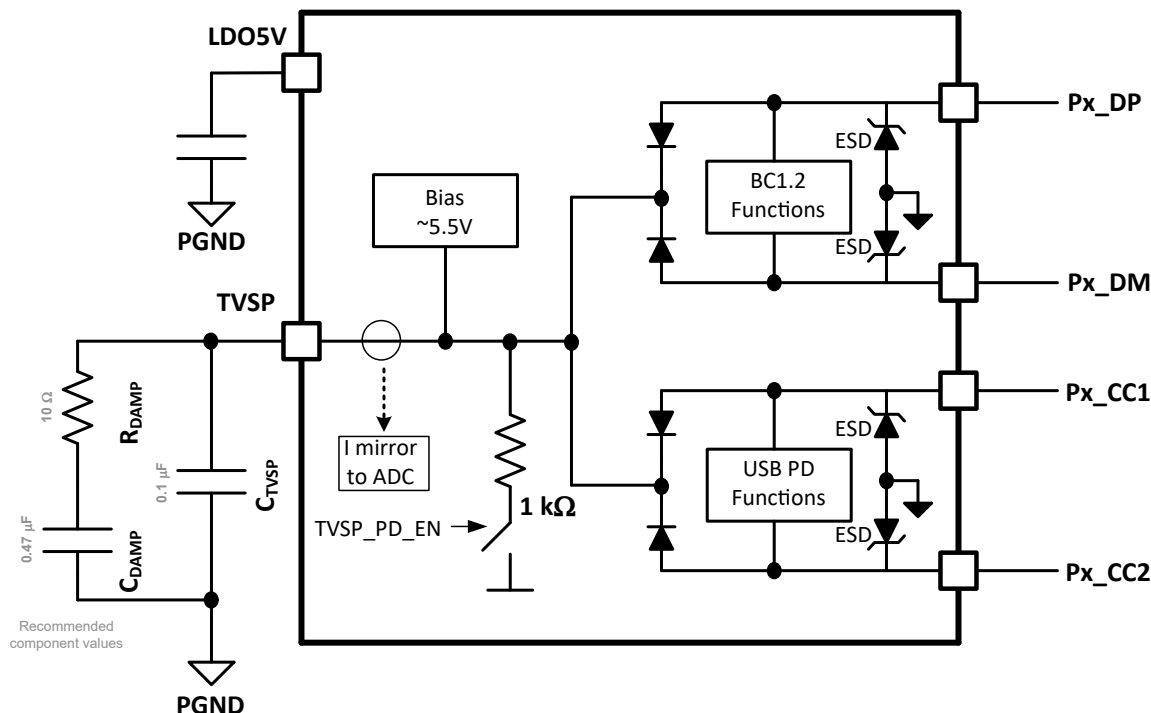

图 9-4. Basic TVSP Pin Connection
- **R_{TVSP} :** At power on, the resistance between the TVSP pin and PGND determines the boot method, USB PD port I²C addresses and I²C logic thresholds. Refer to 表 9-4 and 表 9-5. The most common configuration is shown in 图 9-4 with R_{TVSP} open, corresponding to TVSP Index 0. During device initialization and boot, typically within 4 seconds after power on, V_{IN} must be above 7.6 V to ensure proper bias of the TVSP pin to 5.5 V. Once boot is complete the device can operate over the full V_{IN} range.